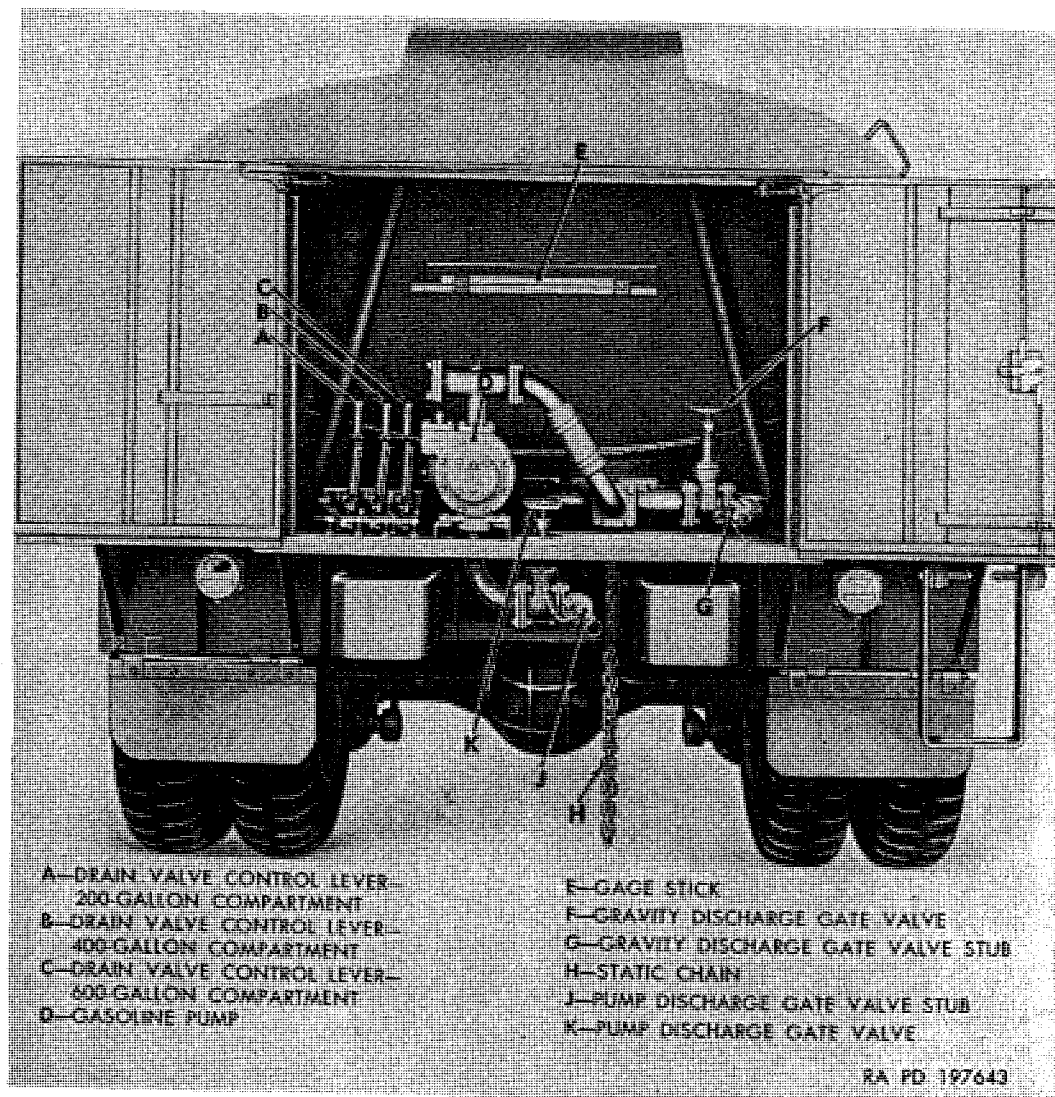
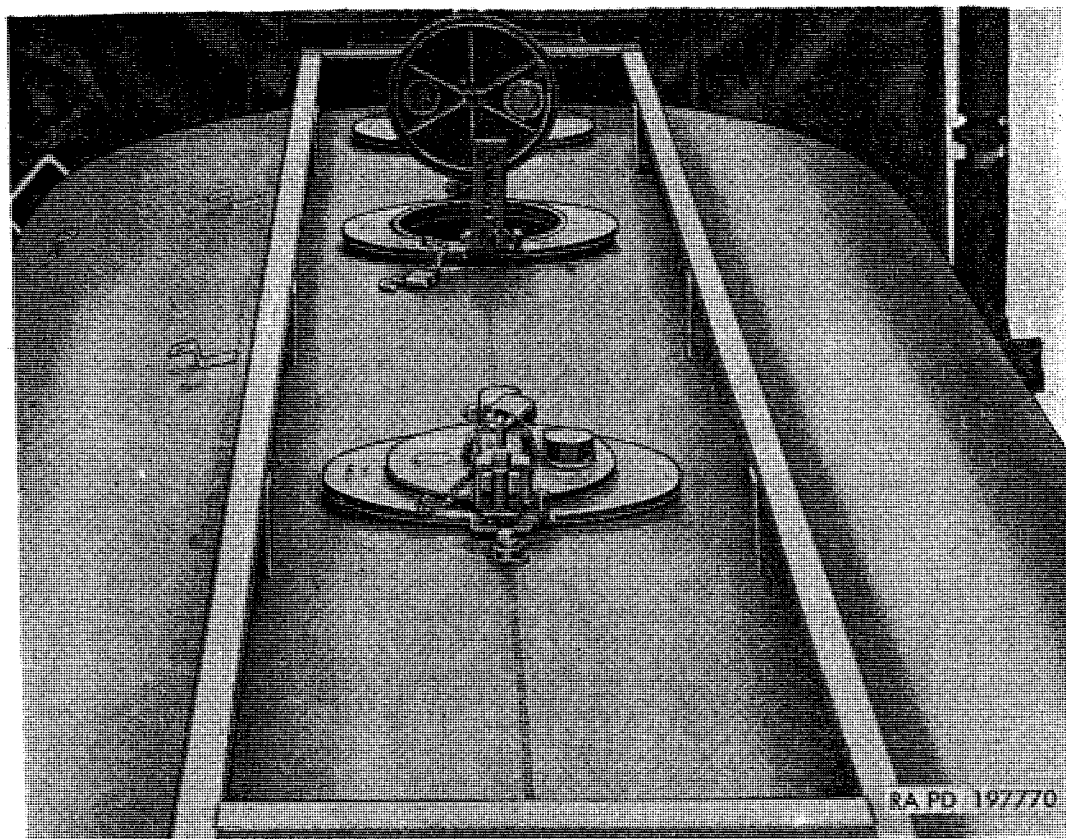
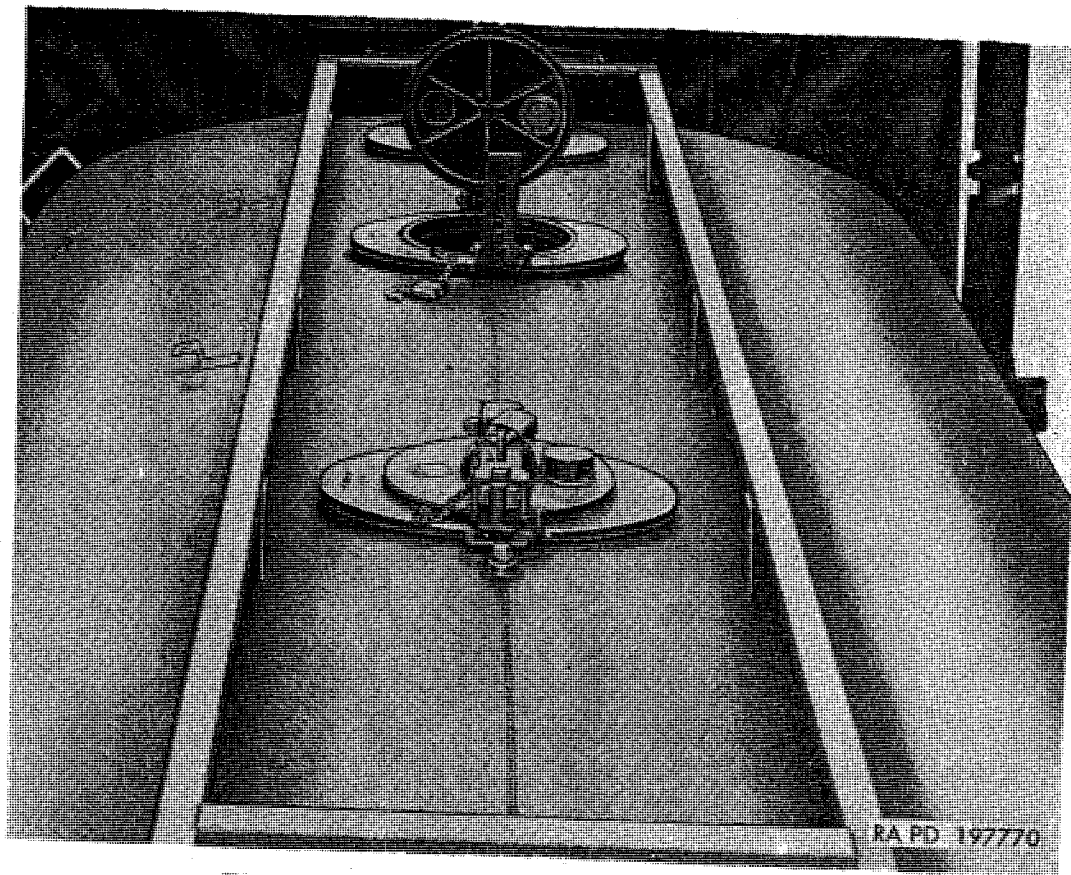

Figure 63. Gasoline tank body rear compartment.
Figure 64. Gasoline tank compartment covers.
Figure 64. Gasoline tank compartment covers.
a. General. Gasoline tank body, mounted on gasoline tank truck M217 (figs. 8 and 9), has three compartments: 200-gallon front, 400-gallon center, and 600-gallon rear. Discharging of gasoline from the compartments is controlled by three drain valve control operating levers in rear compartment (fig. 63). Pump discharge gate valves, interconnected to tank pump, are also located in rear compartment. The tank pump is operated by transfer-mounted power-take-off through drive shafts when controls are properly positioned by driver.
(a) *Discharge gate valves.* The gravity discharge gate valve and pump discharge gate valve (F and K, fig. 63) are located in rear compartment. These gate valves are used in conjunction with pump to dispense gasoline from tank or to fill tank compartments.
(b) *Drain valve control levers.* Three drain valve control levers (A, B, and C, fig. 63) are mounted to left of pump in rear compartment. Each lever controls a drain valve in bottom of a tank compartment and is marked with an indi-
(1) Close gravity and pump discharge gate valves (F and K, fig. 63) by turning handwheels clockwise. Close all drain valve control levers.
(2) Connect dispensing hose to gravity discharge gate valve stub (G, fig. 63). Open gravity discharge gate valve by turning handwheel counterclockwise.
(3) Pull desired drain valve control lever straight back. Discharge through hose nozzle.
(1) Close gravity and pump discharge gate valves (F and K, fig. 63) by turning handwheels counterclockwise. Close all drain valve control levers.
(2) Connect dispensing hose to pump discharge gate valve stub (J, fig. 63).
(3) Open pump discharge gate valve by turning handwheel counterclockwise.
(4) Pull desired drain valve control lever straight back.
(5) Operate pump as described in *b* or *c* above. Discharge through hose by opening nozzle.
- (2) Attach dispensing hose to gravity discharge gate valve stub.
- (3) Attach dispensing hose to pump discharge gate valve stub.
- (4) Place end of pump discharge hose into desired tank opening (fig. 64).
- (5) Open the gravity and pump discharge gate valves.
- (6) Operate pump in manner described in *b* above.
- (7) Fluid level in tanks can be gaged with gage stick (E, fig. 63). This gage is calibrated on three faces, one for each compartment.